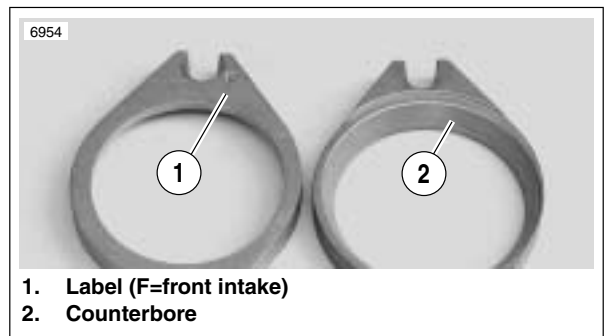

Figure 4-105. Intake Flanges
1. See Figure 4-105. Install front and rear intake flanges onto throttle body with the counterbore facing out. Each intake flange is labeled and the pieces are not interchangeable.